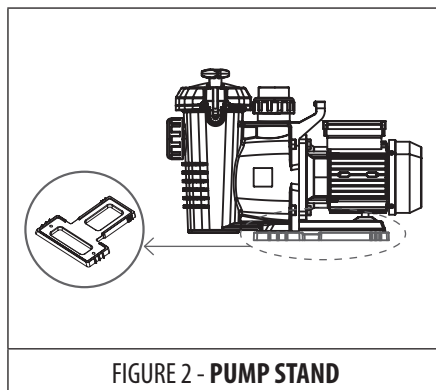

FIGURE 2 - PUMP STAND
- If necessary, use the stand to lift the pump up to the level of the piping fitted. (FIGURE 2).